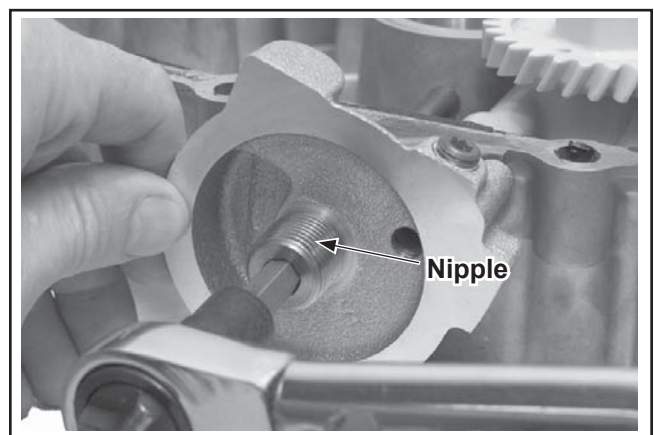

**Figure 10-22. Oil Filter Adapter and O-ring.**
- Apply a small amount of grease and install a new O-ring into the groove of the adapter for oil filter or oil cooler. See Figure 10-22.